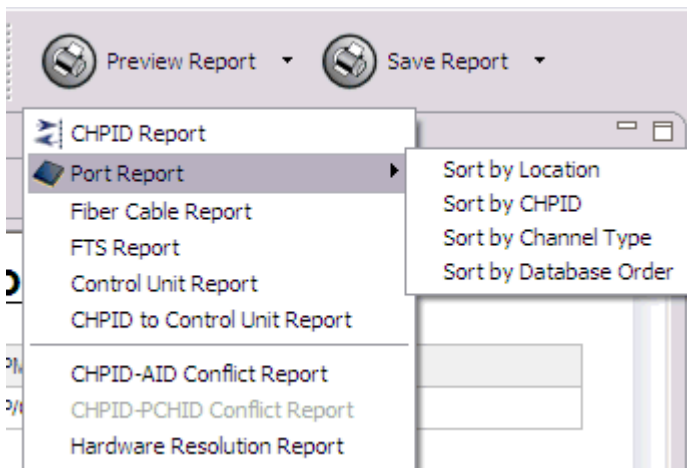

Figure 131. Additional options under Port Report
3. If you click **Port Report** you additionally need to click a **Sort by...** selection. Figure 131 on page 101 shows these additional selections.